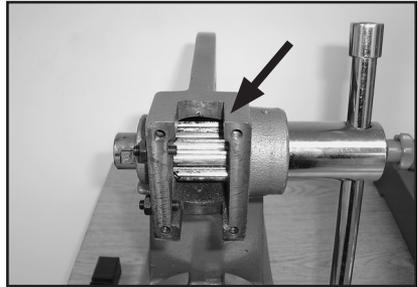

Figure 4. Front support plate and ram removed.
1. Remove the front support plate and ram, as shown in **Figure 4**.